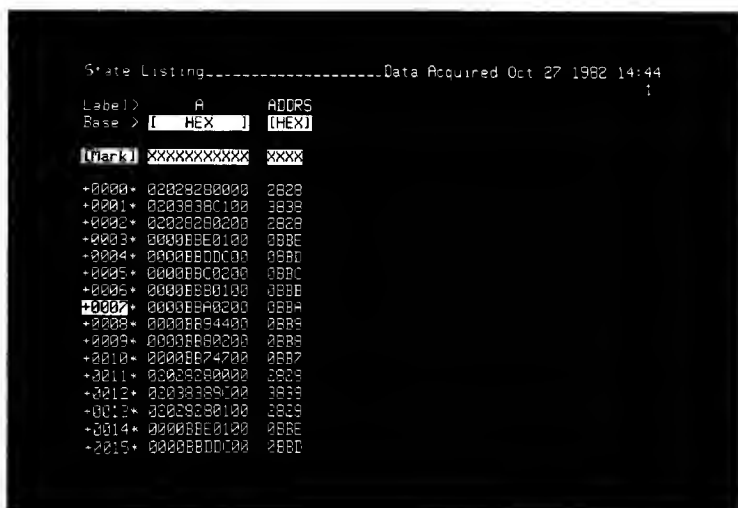

Figure 3-5. Labeling Address Bits In Trace List
10. Press the LIST key. See figure 3-5. The information collected from the sixteen channels of pod 3 and pod 2 (connected to the address bus in your system) is shown under a separate label called ADDR5. Is this the address space you expected to see executed by the system under test? If not, check your probe connections and check the clock polarity in the format specification.